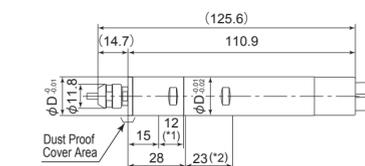
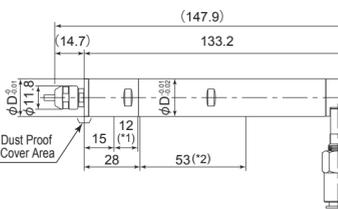

Fig. 1 R Type
Fig. 6 RA Type
- When mounting an Air Motor Spindle, refer to the Clamping Area etched on the Air Motor Spindle. These Air Motor Spindle have 2 Clamping Area refer to "6 - 2 Outside View (Fig. 1 - Fig. 6).